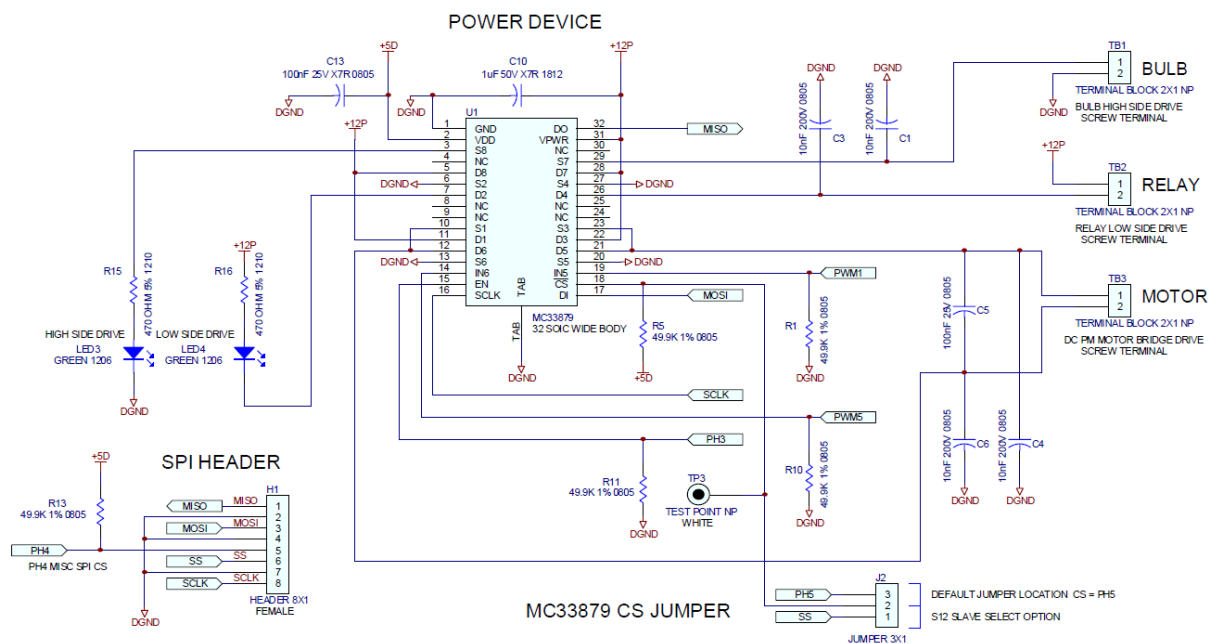

Figure 1 - SPI Power Driver IC on Freescale S12 University Board
- This document covers SPI initialization for the Freescale K65 Tower Board with example use for SPI power driver IC present on the S12 board (Figure 1).